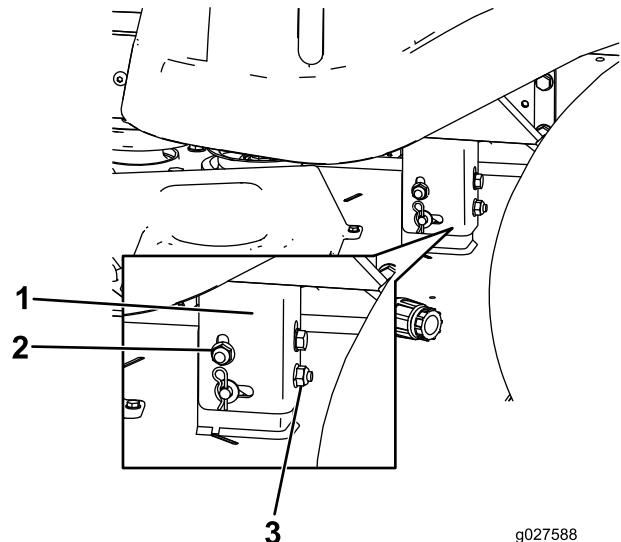

**Figure 52**
4. Carefully rotate the blade(s) so that they are all side to side (Figure 52).
5. Measure between the outside cutting edges and the flat surface (Figure 52). If both measurements are not within 5 mm (3/16 inch), an adjustment is required; continue with this procedure.